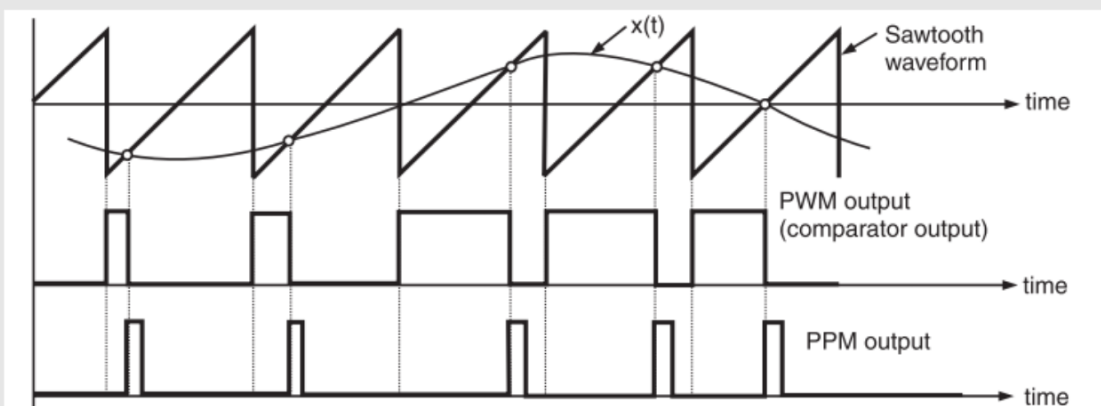

Fig.2 : Waveforms
The block diagram of a PWM signal generator is shown in fig.2 below. This circuit can also be used for the generation of PPM signal.
- This gives rise to a PWM signal at the comparator output as shown in fig.2.